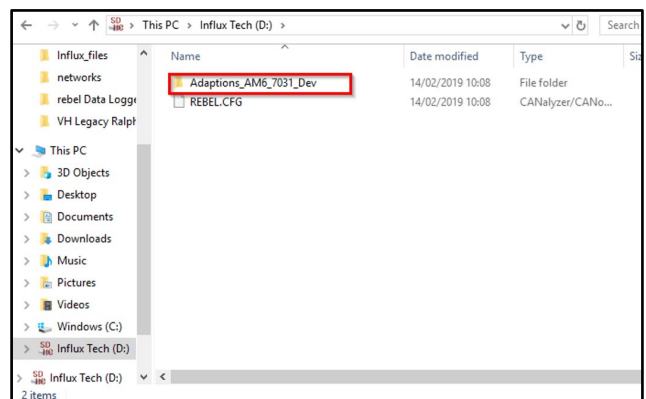

Figure 8
4. Open the configuration folder (refer to Figure 8).